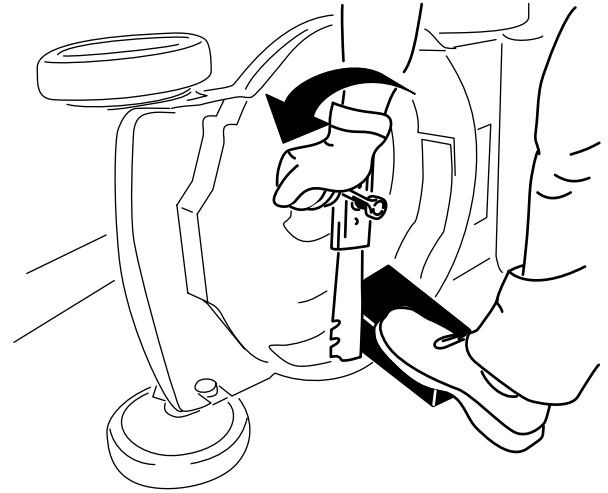

Figure 21
3. Use a block of wood to hold the blade steady (Figure 21).
4. Remove the blade, saving all mounting hardware (Figure 21).